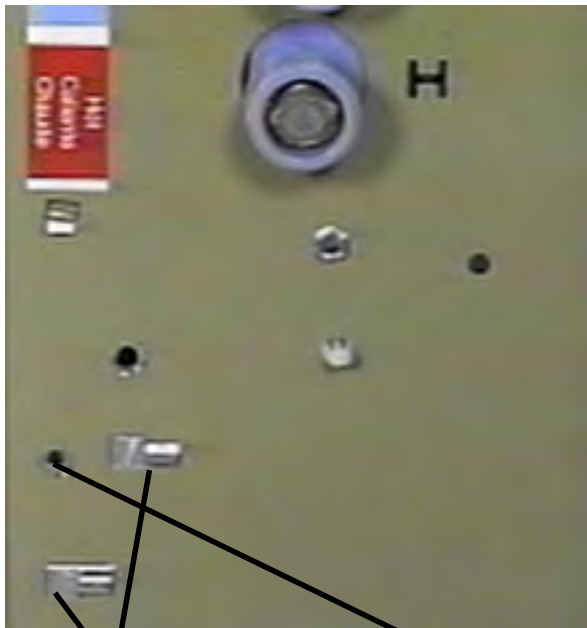

Fig. 12
2. Remove the hex-head screw on the outside surface of the feature panel. (Fig. 12)
3. Slide the Out-of-Balance Switch so the tabs of the mounting bracket disengage from the key slots as show in *Figure 12* and remove the switch assembly.